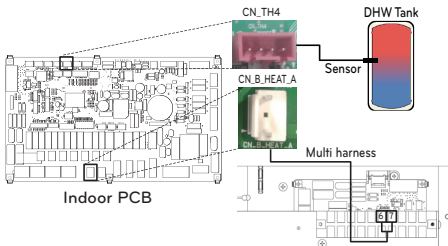

Fig. 1
**Step 2.** Connect Harness (Violet) of Main PCB assembly (TB1(6/7)) to 'CN\_B\_Heat\_A' of the Main PCB like following fig. 1.
**Step 4.** Connect power supply to the DHW tank kit as shown fig. 1.